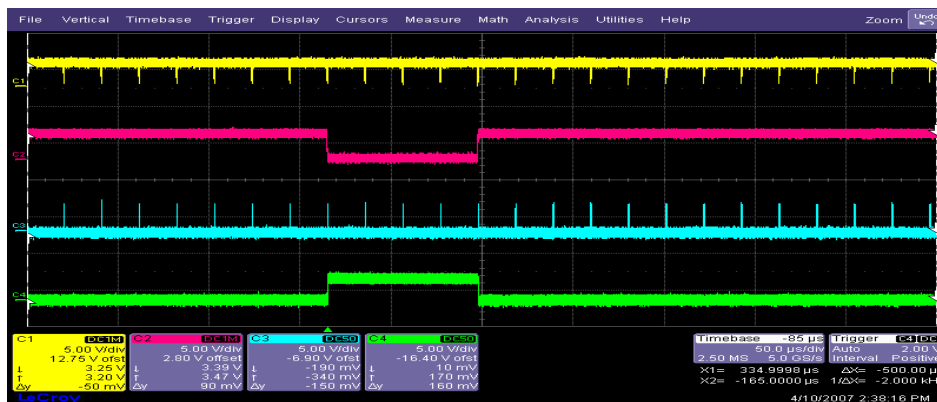

FIGURE 6. ACTIVE HIGH POLARITY EXAMPLE
4. SS4 and SS3 switches should be set in LO position for the active high polarities seen in Figure 6.